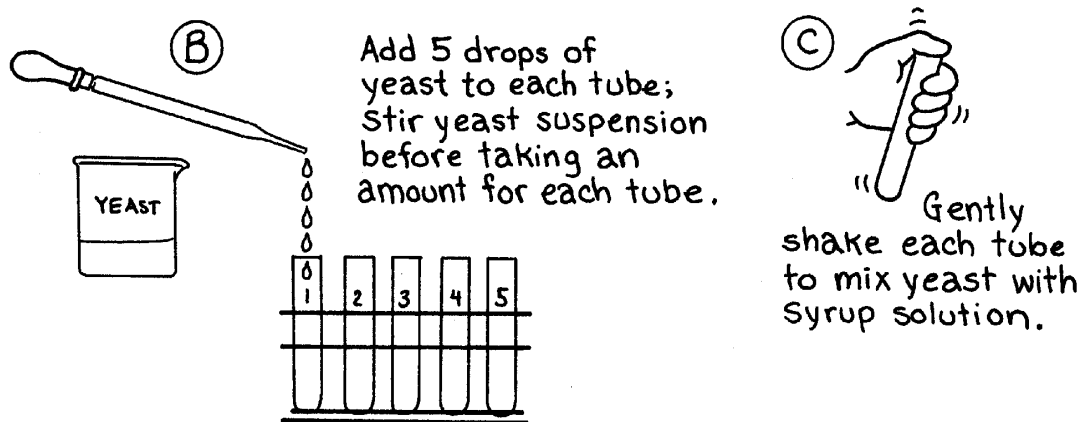

Figure 5.2
8. Hold your thumb over the top of each test tube and gently shake each test tube to mix the yeast with the syrup solution. Steps 7 and 8 are illustrated in Figure 5.2, Diagrams B & C.